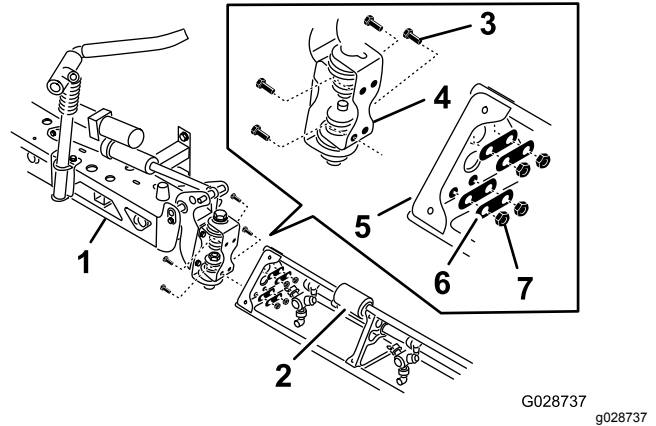

Figure 40
- Rotate each pivot bracket at the end of the center boom section so that the brackets align vertically (Figure 40).
4. Assemble hinge plate to the triangular plate using 4 flange-head bolts, 4 backing plates, and 4 flange locknuts (Figure 40), that you removed in step 1.
6. Align the rod end of the boom lift cylinder with the holes in the horn of the pivot bracket (Figure 40).
7. Secure the rod end to the pivot bracket with a clevis pin and a hairpin (Figure 40).